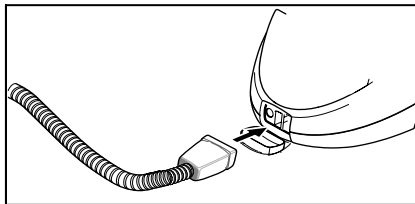

Figure 2
- Tightly insert the steam plug (C6) into the appliance connector (A1). The locks of the steam plug must lock into the cover of the appliance connector (see Fig. 2).
- Put the extension pieces into the large accessory compartments (see Fig. 2).